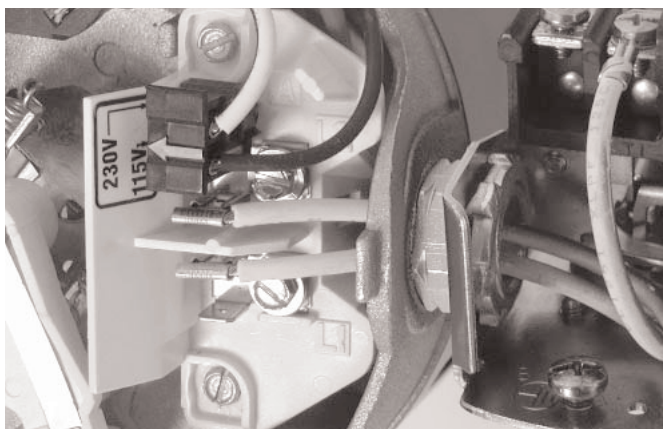

Figure 10: Voltage set to 115 volts, Plug Type
3. Move the voltage change plug to the 115 volt position. The plug will now cover 2 metal tabs and the arrow on the plug will line up with the 115V arrow on the label (see Figure 10).